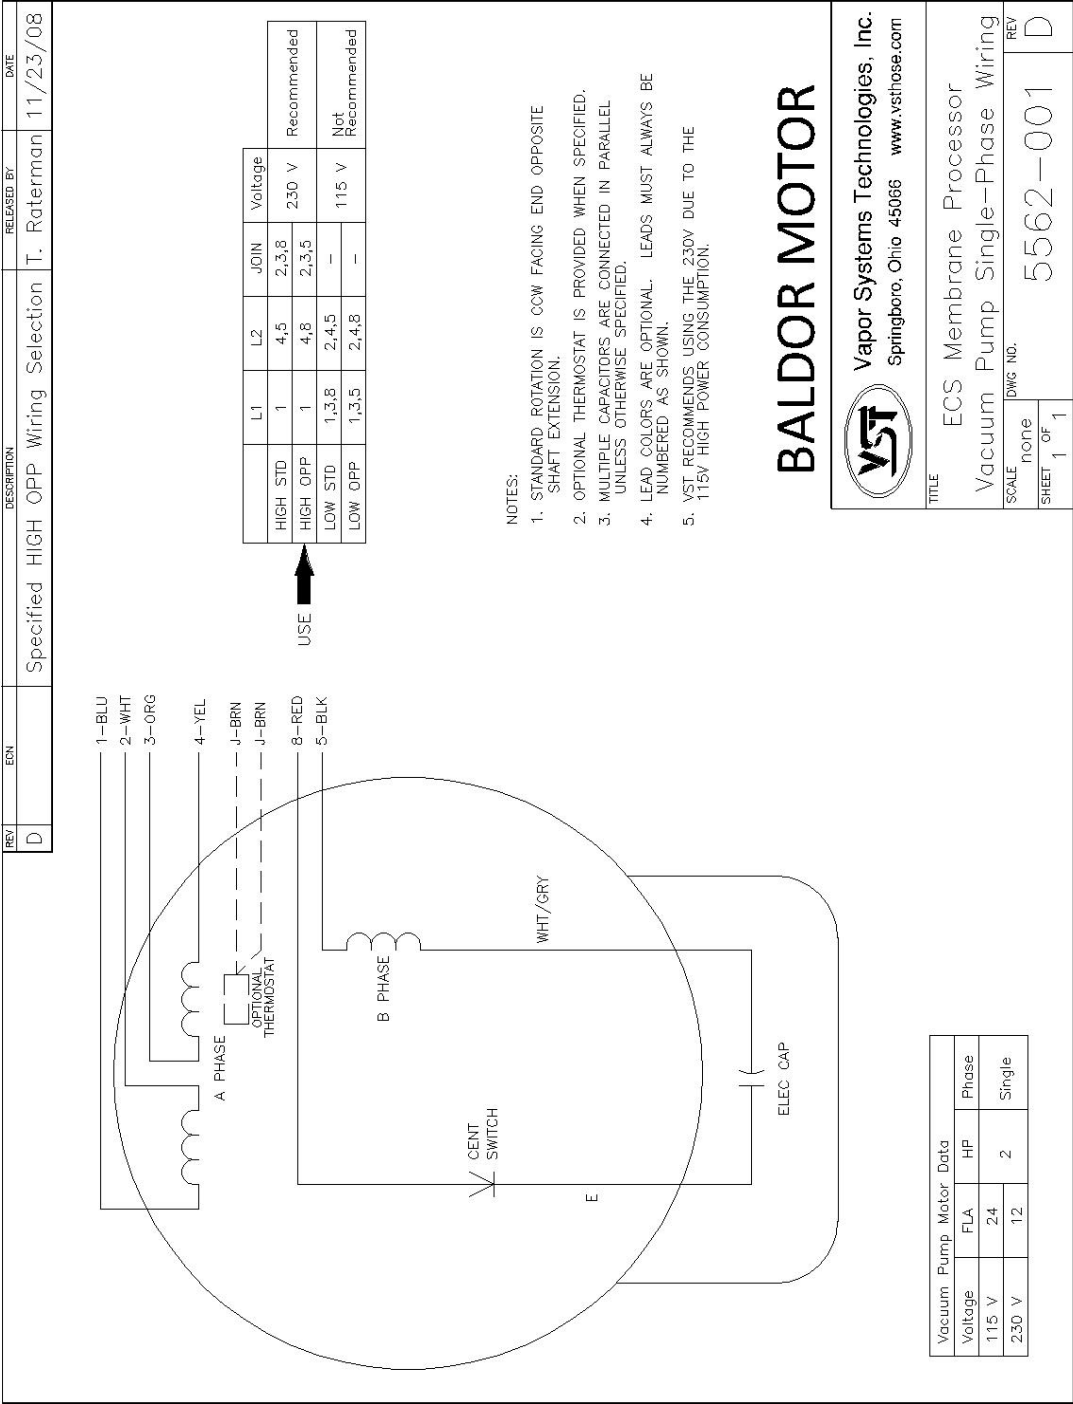
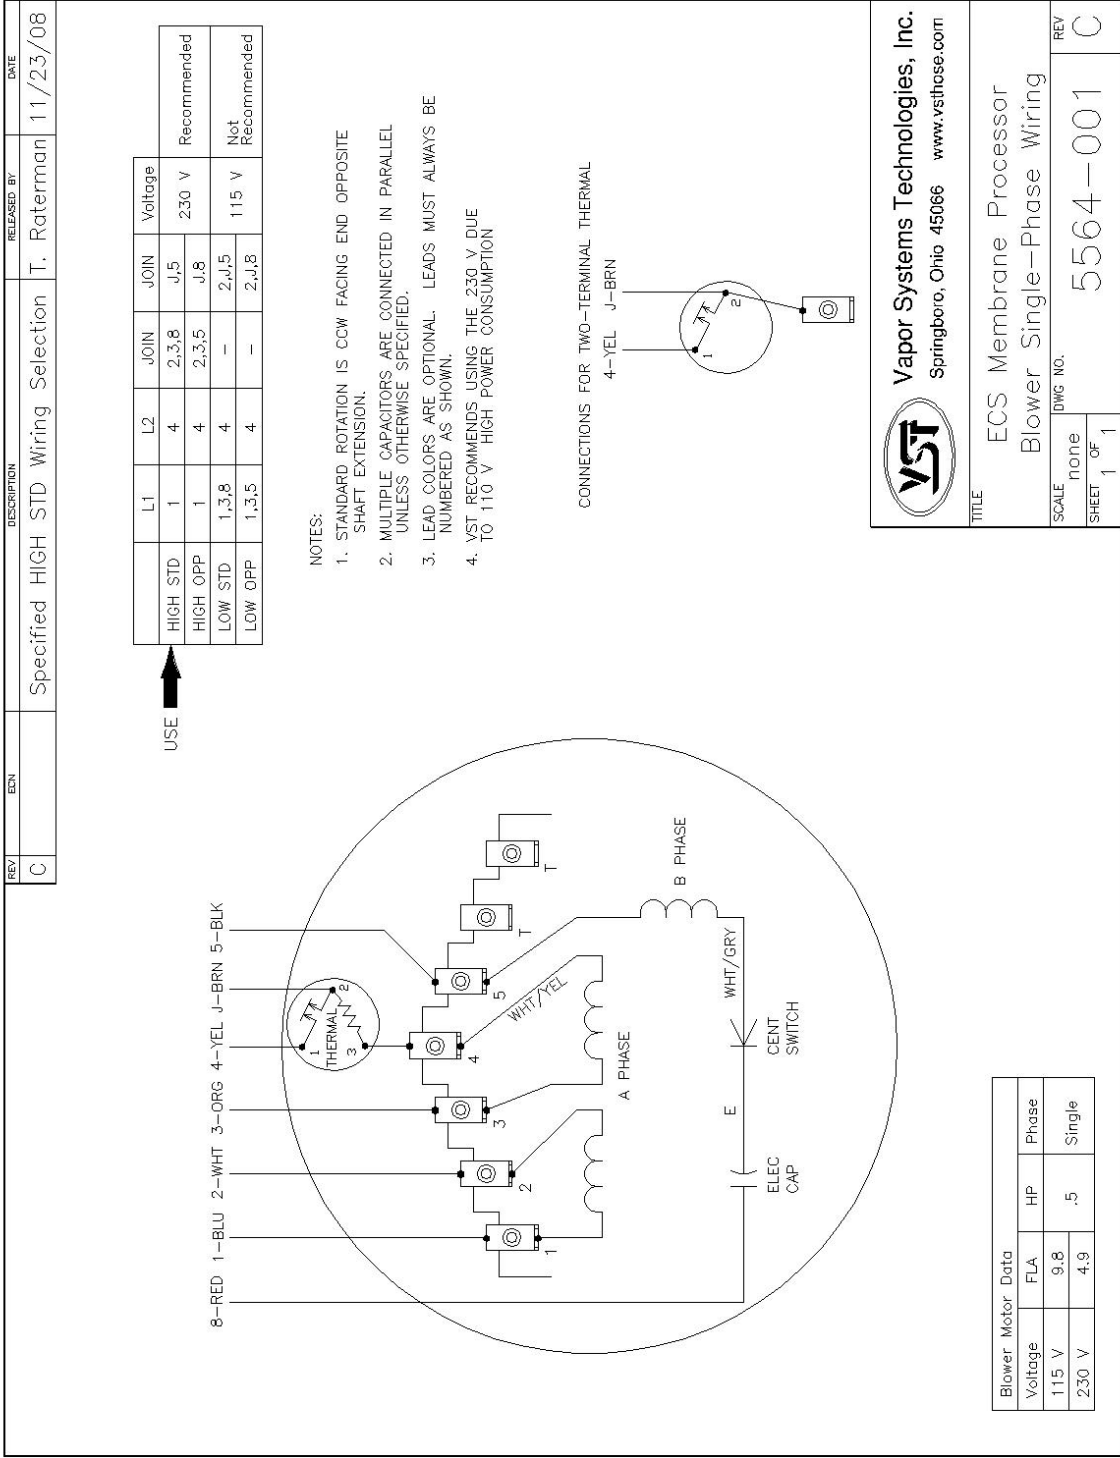

Figure 12: Vacuum Pump: Single-Phase Motor Wiring Diagram
Figure 14: Blower: Single-Phase Motor Wiring Diagram
- ▶ See Figure 12 and Figure 14.